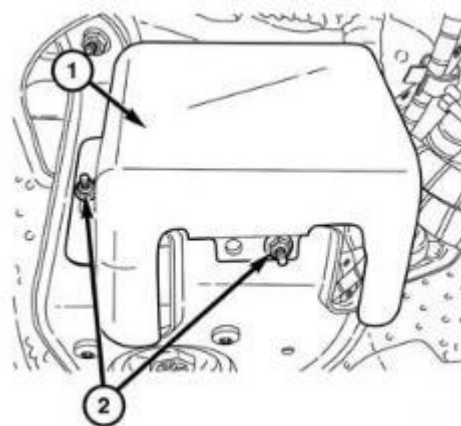

Figure 50 – Fuel Filter Shield
93. Remove the nuts (2) and the fuel filter shield (1) (Figure 50).
114. Install the fuel filter shield (1). Tighten the nuts (2) 14 N·m (10 ft. lbs.) (Figure 50).